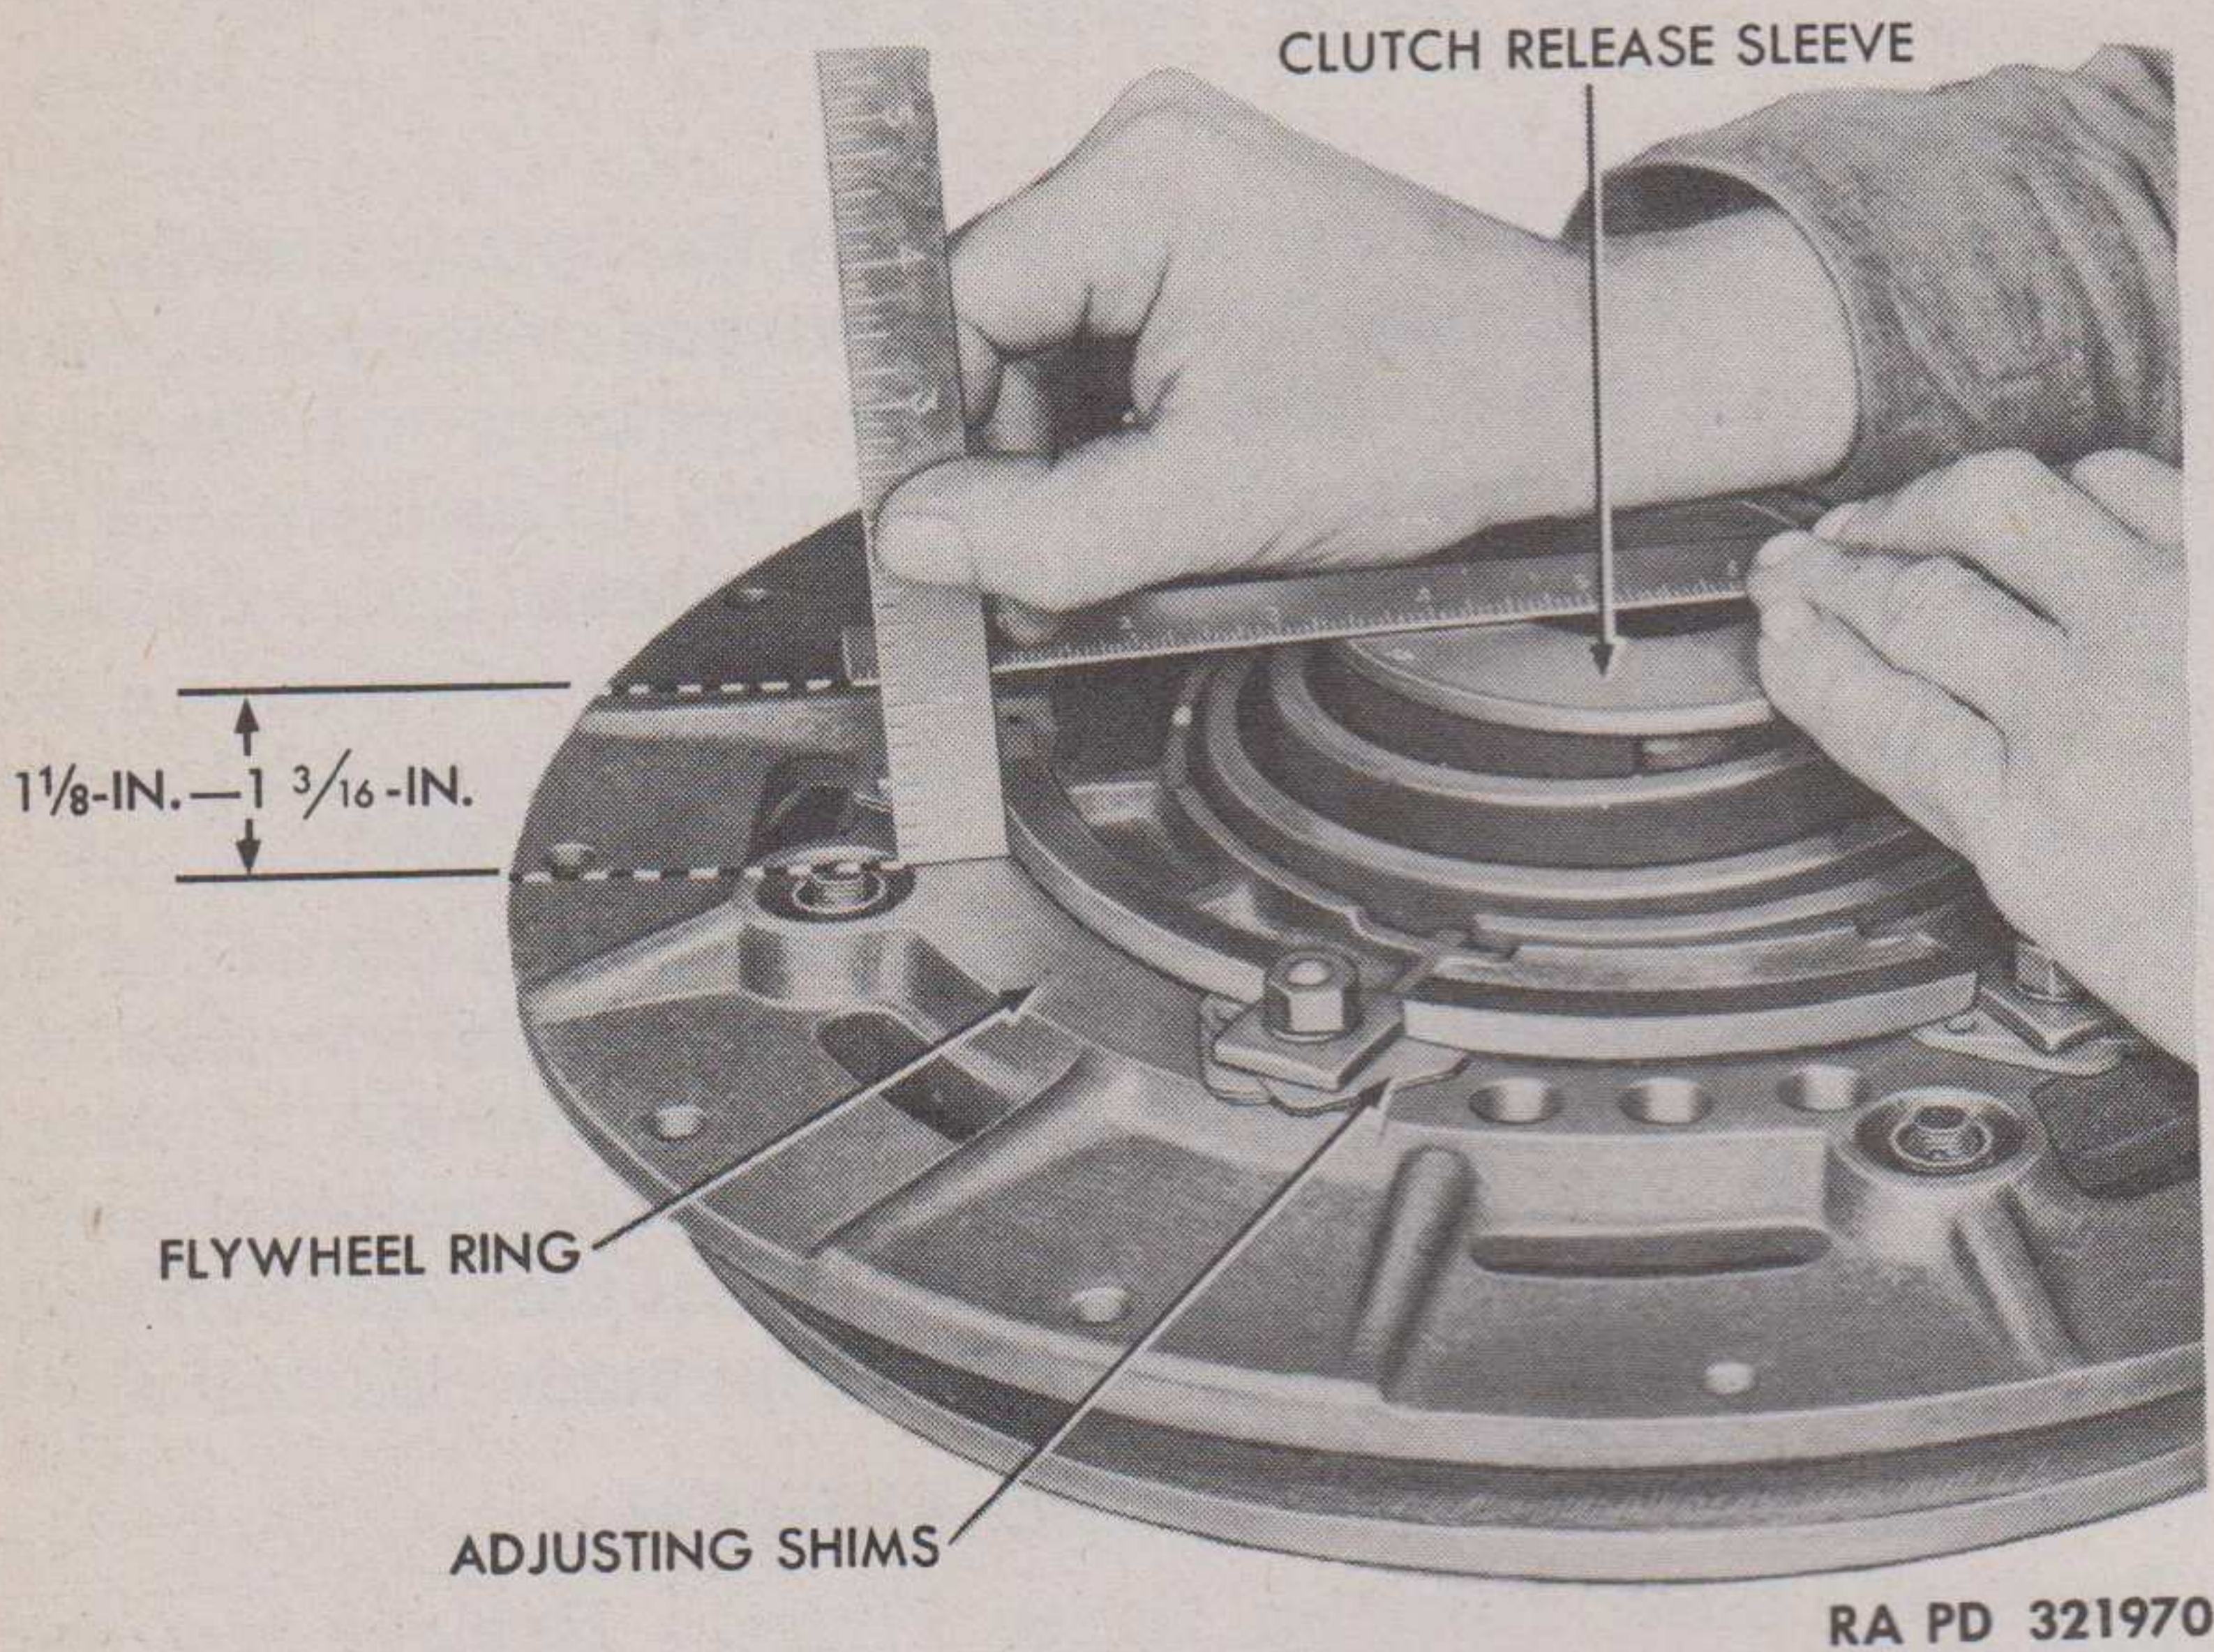

Figure 5 — Clutch Adjustment
a. Original setting of the clutch provides for approximately $1\frac{1}{2}$ inch of free pedal movement between pedal and toeboard or stop. Clutch readjustment is necessary when this clearance is reduced to three-fourths inch or less. Do not make pedal adjustment. Check distance between clutch release sleeve and rear face of clutch flywheel ring. When clutch is properly adjusted, this distance will measure $1\frac{1}{8}$ to $1\frac{3}{16}$ inches (fig. 5). It is not safe to depend on free pedal movement alone without checking this dimension. Distance between clutch release sleeve and rear face of clutch flywheel ring is controlled by flywheel ring adjusting shims. On this clutch, one shim moves the clutch release sleeve seven sixty-fourths inch. Movement of sleeve should not be less than one-half inch, and not more than nine-sixteenths inch in order to obtain proper clutch release. If less than one-half inch, add one shim; if more than nine-sixteenths inch, remove one shim.